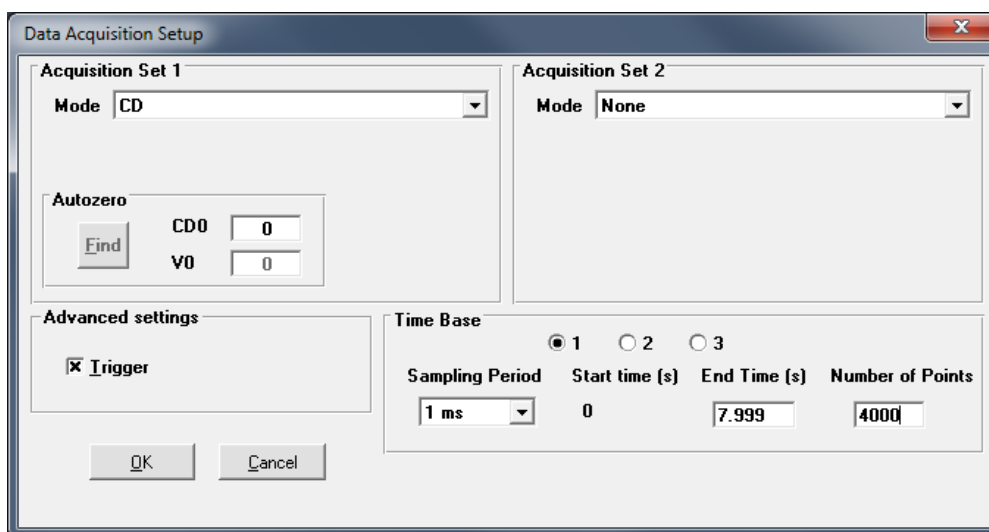

Figure 165: Setup window.
Click on the **Acquisition Setup** button to load the window shown in Figure 165, parameters are described below.
- The **set n°1** is always used to perform CD measurements, channels 1 and 2 are automatically selected (refer to Figure 165).
Figure 165). This is used to start the data acquisition at a trigger signal. The trigger will occur on the falling edge of a TTL pulse sent to the trigger input of the A/D board. This mode will be used to synchronize the data acquisition with stopped-flow driving sequence.